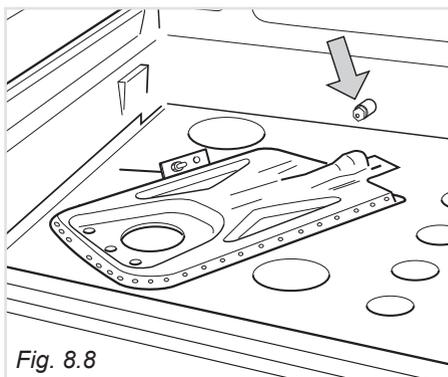

Fig. 8.8
- Withdraw the burner as shown in figure 8.8 and rest it inside the oven.
- Using a 7 mm box spanner, unscrew the injector (indicated by the arrow in fig. 8.8) and replace it by the proper one according to the kind of gas. Then replace the burner repeating the above steps in reverse order.